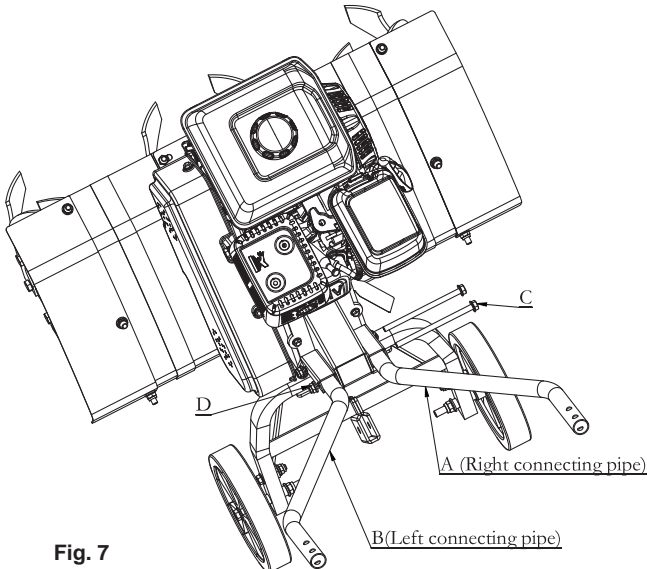

Fig. 7
Step 7 Assembly of the connecting pipe (See Figure 7)